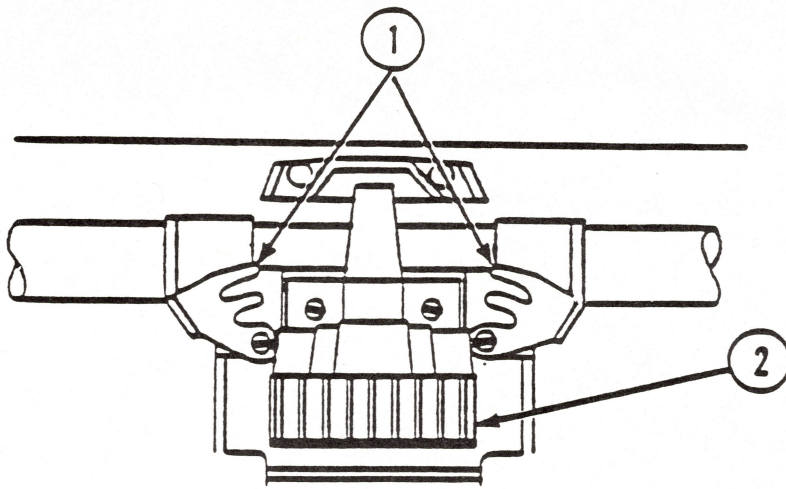

FIGURE 1
4. To free the dot head, slide out both dot head latches (see Figure 1, #1).
5. Pull up the dot head (see Figure 1, #2). If you have trouble getting it out, pull the paper roller shaft forward. Ease the dot head around the roller shaft.